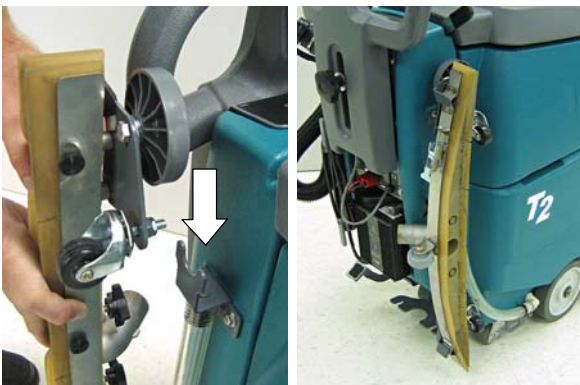

FIG. 7
7. When transporting or storing machine, remove the squeegee assembly and hang it on the storage bracket (Figure 7).